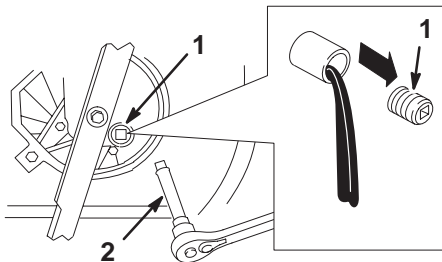

Figure 17
5. Remove the oil drain plug, return the lawn mower to its operating position, and allow the oil to drain into the drain pan (Fig 17).